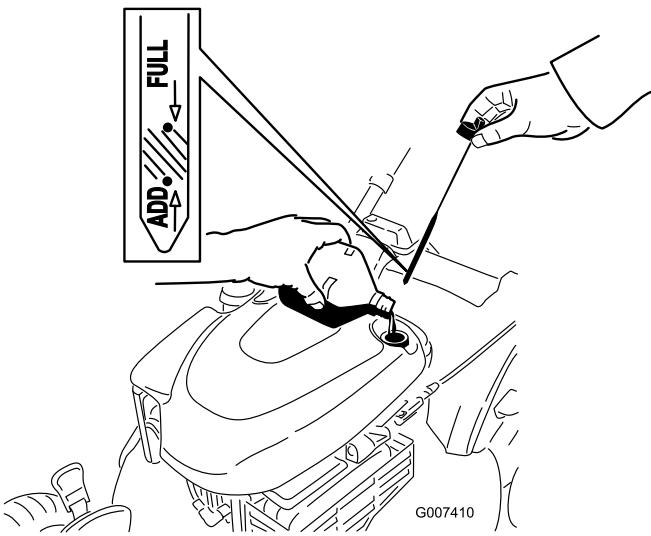

Figure 15
1. Remove the dipstick, wipe it clean, and fully install the dipstick (Figure 15).
2. Remove the dipstick and check the oil level (Figure 15). If the oil level is below the **Add** mark on the dipstick, slowly pour oil into the oil fill tube to raise the oil level to the **Full** mark on the dipstick.